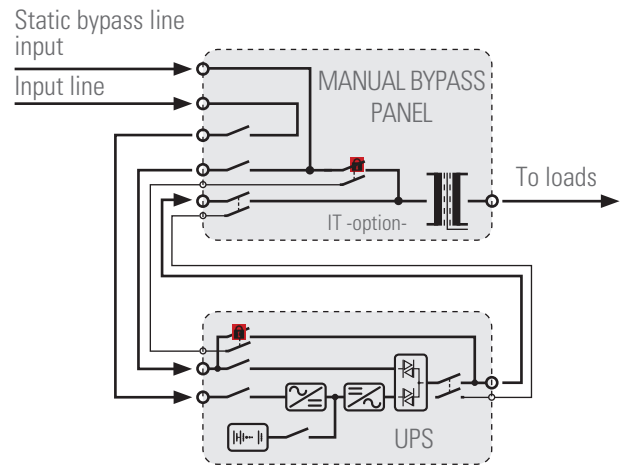

Fig. 2. Manual bypass panel connection with the UPS with separate bypass line.
- With separate bypass line (Fig. 2). These panels have separate terminals for input and static bypass lines, so it makes possible to supply both mains from uneven sources, like: two companies, one company and one generator set, etc...
- In graphical way, Fig. 2 and 3 the galvanic isolation transformer is shown at the output, less those ones which under request or particular specifications are requested. In the point of view of taking advantages of the inherent features, efficiency and price, it is the most recommended electrical connection.